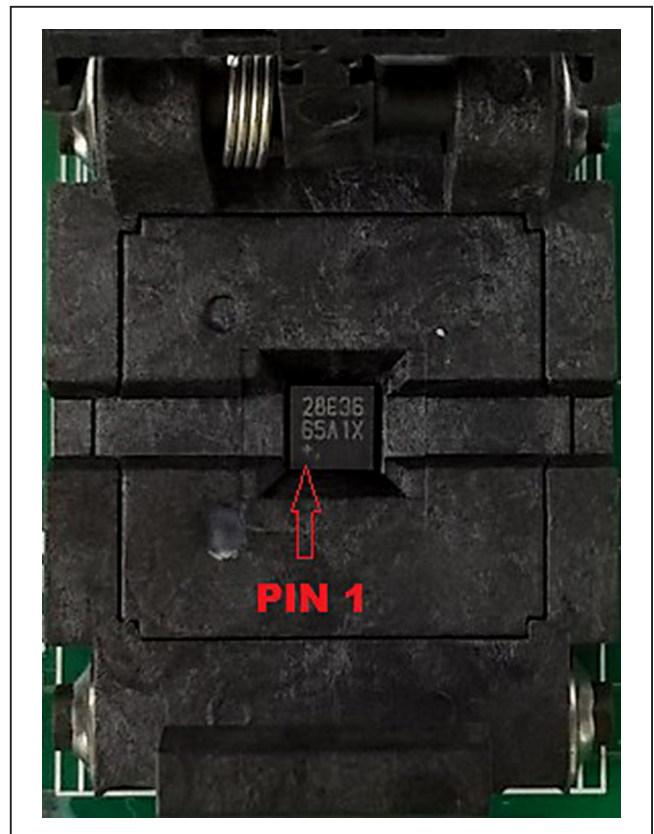

Figure 9. Orientation of the DS28E36 and DS2476 in the Burn-In Socket
- a) Open the first burn-in socket and insert a DS2476BQ+ into one of the cavities, as shown in Figure 9.
- b) Open the second burn-in socket and insert a DS28E36BQ+ into one of the cavities, following the same orientation shown in Figure 9.